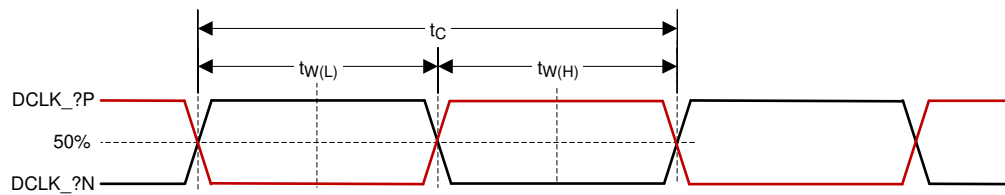

图 5-12. HSSI CLK Characteristics
(7) See 图 5-12 for pulse duration high and low for HSSI.